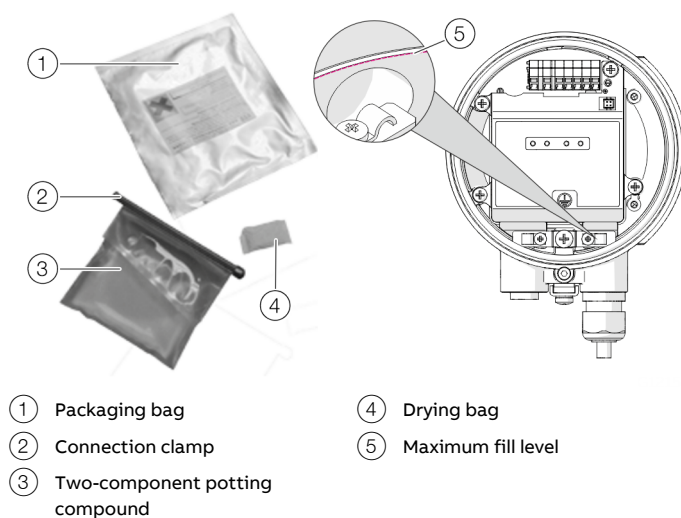

Figure 47: Terminal box sealing
- Do not overfill the terminal box. Keep the potting compound away from the O-ring and the gasket / groove (see Figure 47).